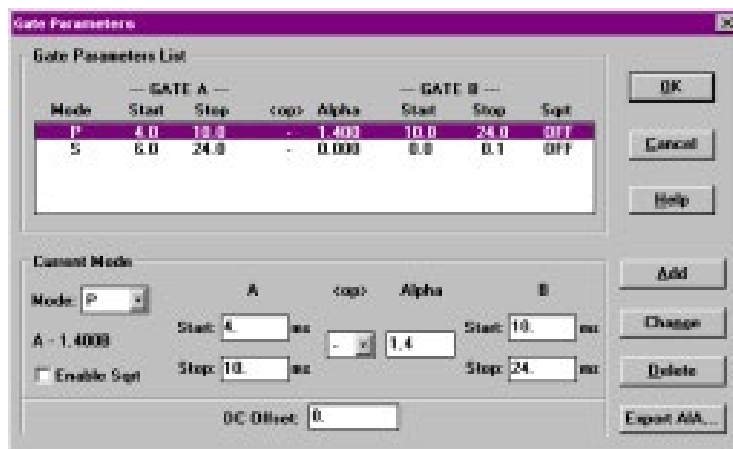

Figure 5.6. Gate Parameters Screen
2. In the Gate Parameters List, select the desired gate mode to be exported as an AIA file (see Figure 5.6). One of the modes in the Gate Parameters List must be selected to activate the Export AIA button.